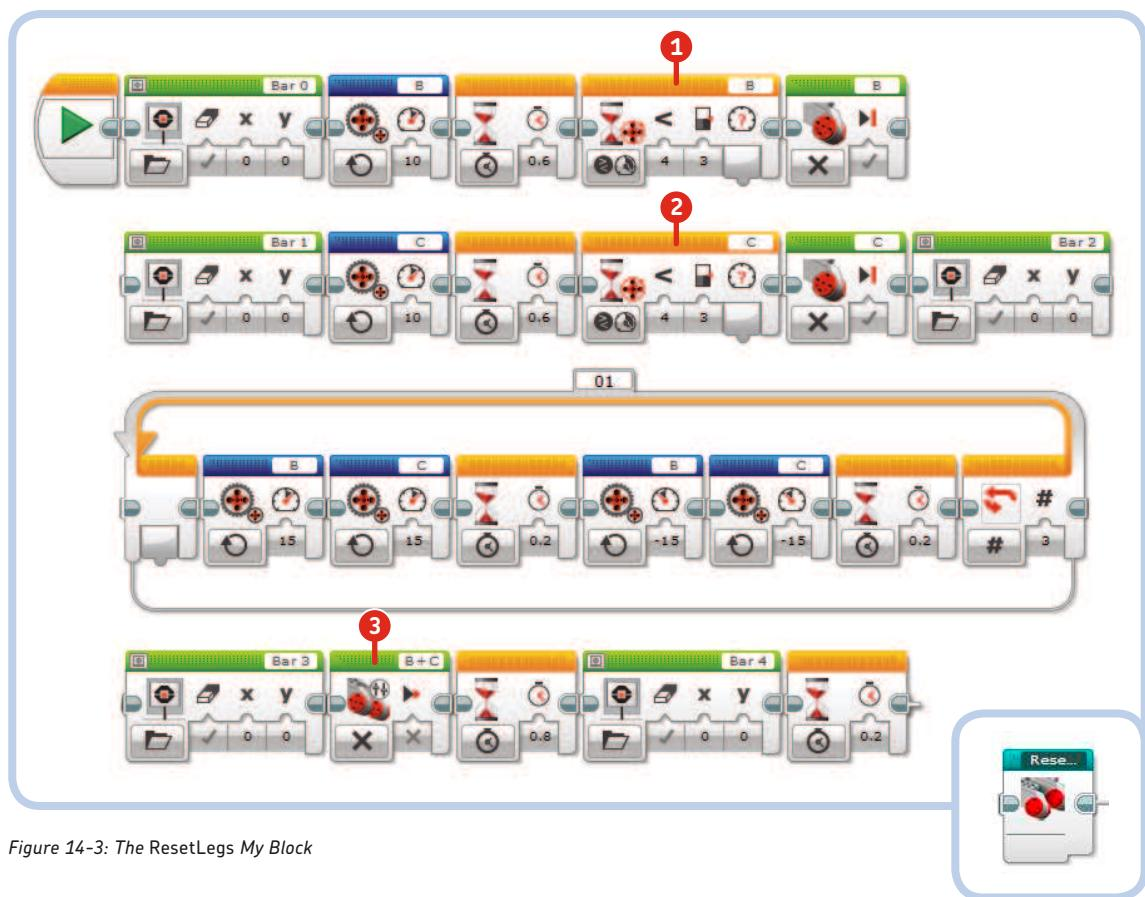

Figure 14-3: The ResetLegs My Block
The building instructions in Chapter 13 show all of the robot's front legs touching the ground. For the robot to walk efficiently without wobbling, its front legs must all touch the ground at the beginning of the program and be kept in sync as the robot moves. The *ResetLegs* My Block shown in Figure 14-3 resets the position of the legs so they all touch the ground.
In the *ResetLegs* My Block (Figure 14-3), each Large Motor is run at low speed until a Wait block in **Motor Rotation Compare Current Power** mode (1) and (2) detects a Current Power of less than 3 (meaning that the motor is almost still); at that point, the motor is stopped. Next, to be sure that the legs are touching the ground, the motors are moved back and forth a few times and then left floating by the Move Tank block in **Off** mode with *Brake at End* set to **False** (3). The motors can rotate freely when stopped without the electric brake, and the weight of the robot will level the legs on the ground.